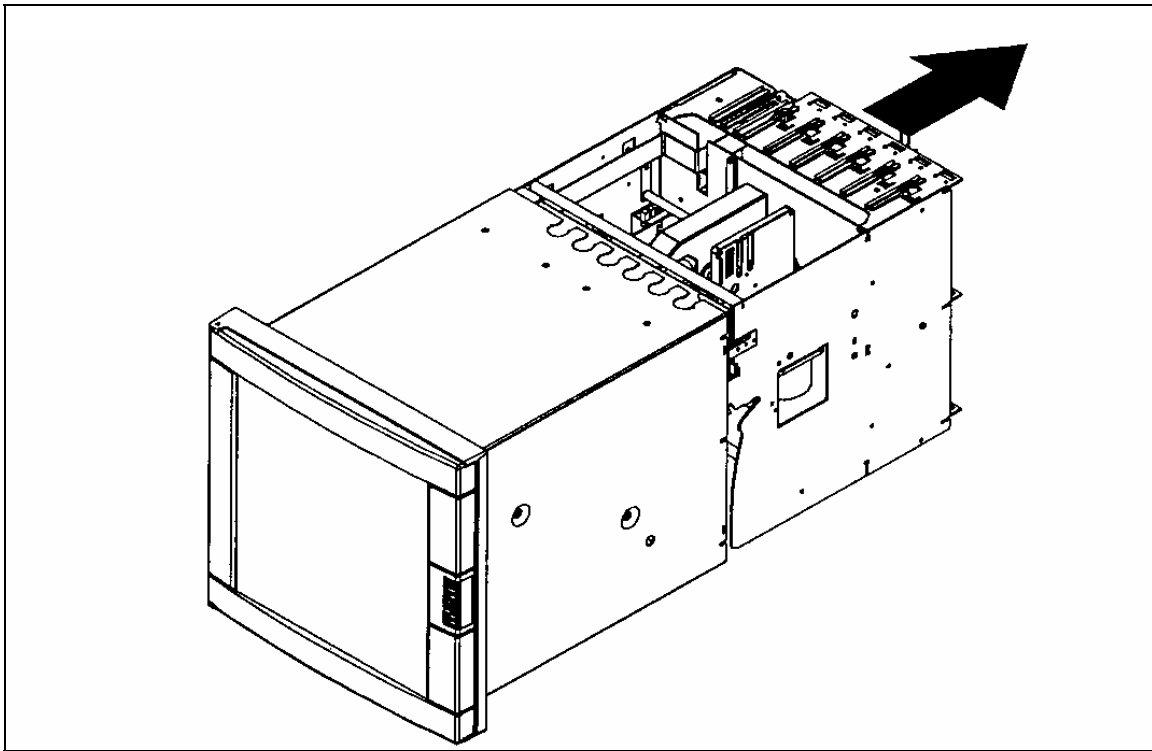

Figure 2-5
11. Slide the recorder chassis out of the case. (See Figure 2-5).